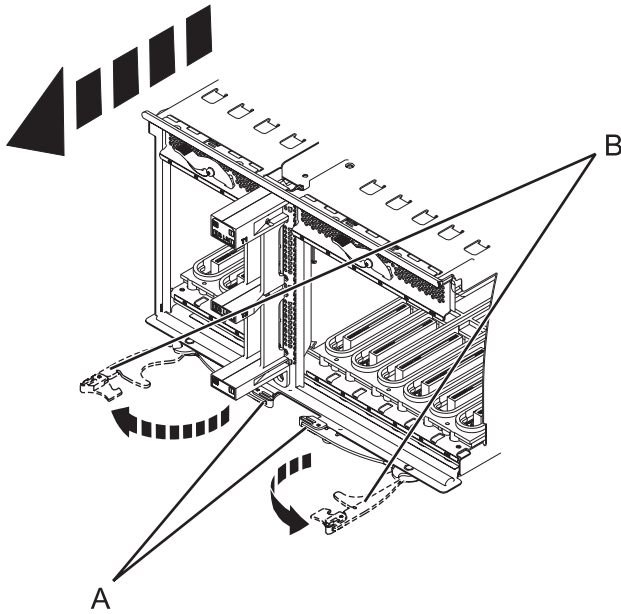

Figure 99. Removing the I/O system board
12. Squeeze the release latches (**A**) and pull the levers (**B**) out away from the system, as shown in Figure 99.